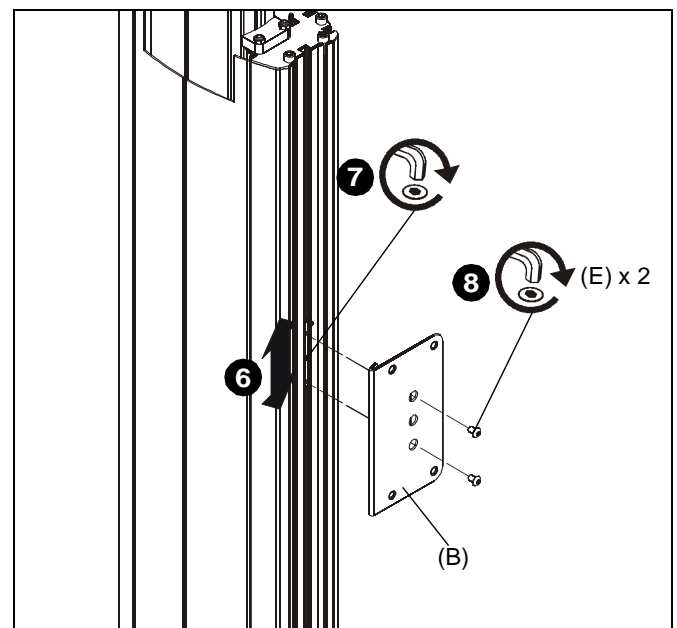

Figure 3
6. Slide accessory bracket up or down in side channel until desired mounting height is reached. (See Figure 3)
7. Tighten set screw (F) to lock bracket in position. (See Figure 3)
8. Use two 1/4-20 x 3/8" button head cap screws (E) to secure adapter bracket (B) to accessory bracket (C). (See Figure 3)